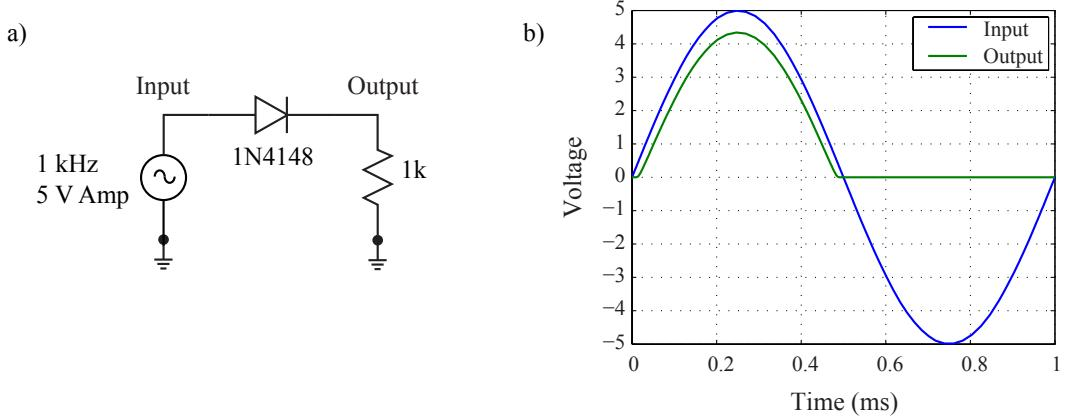

Figure 8.2: A simple half wave rectifier (a) and the resulting input and output signals (b).
Signal rectification is the process of converting an alternating signal in to its positive or negative components. Figure 8.2 is an example of a simple half-wave rectifier. After the input sine wave passes the diodes forward bias voltage, ≈ 0.7 V, the diode conducts and passes the positive half of the sine wave but doesn't pass the negative half of the sine wave because the diode is reverse bias and does not conduct.
1. Build the circuit in Figure 8.2 (a). Set the input to a 1 kHz, 5 V amplitude sine wave and run a transient simulation with a stop time of 1m (.tran 1m) and plot the input and output. To use the 1N4148 diode model, right click on the diode after placing it, Pick New Diode, and then choose the 1N4148 model (Mfg. OnSemi). Save an image of the circuit and the plot of the input and output voltage for submission to canvas.